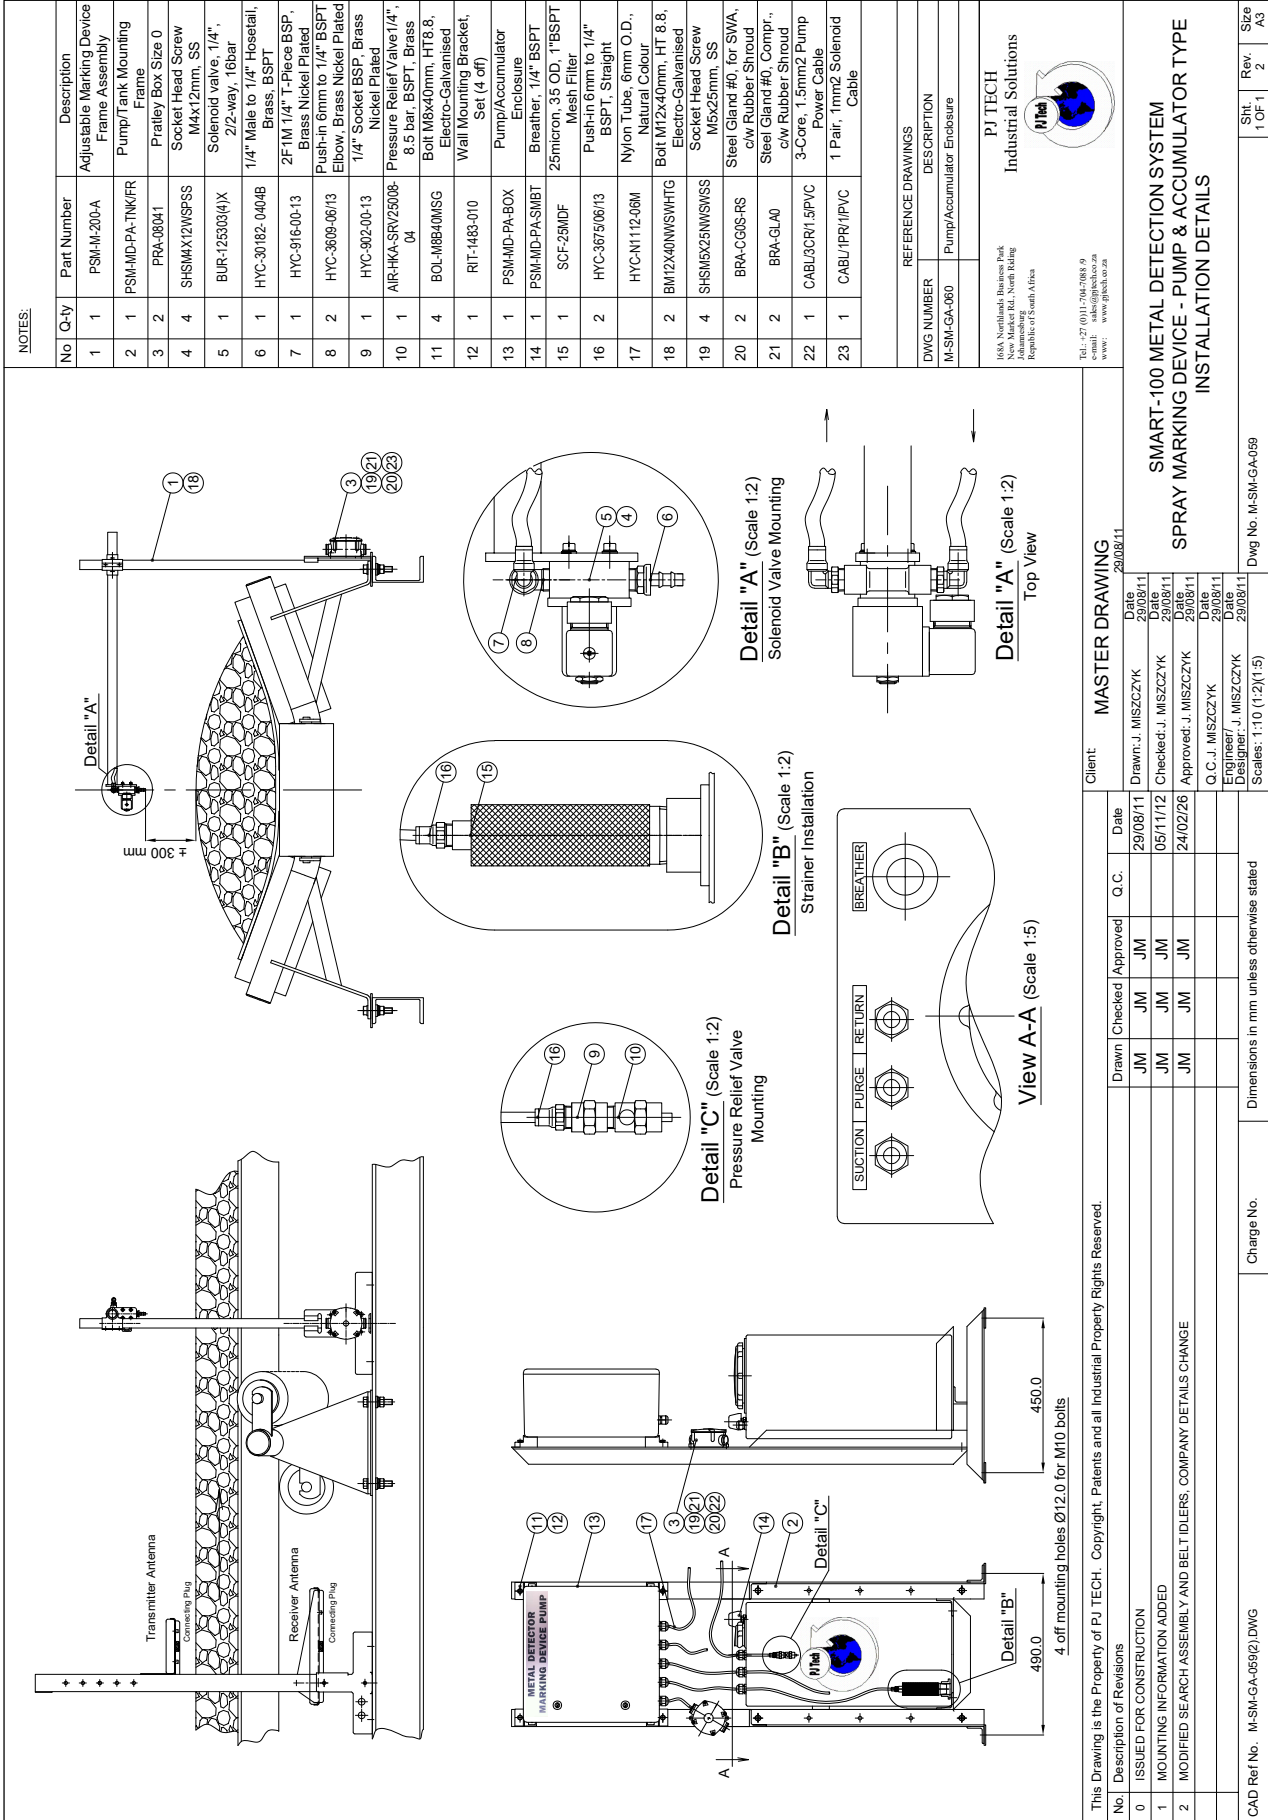

Figure 21
- A) Refer to Figure 21 & 22 for installation details and Figure 23 for connection diagram.
- B) Assemble the Marking Device Adjustable Spray Frame (1 on Figure 21) upright and cross arm with the cross bracket.
- E) Position the Adjustable Spray Frame upright and cross arm as shown (1 on Figure 21). It should be located approximately 1m to 2m from the antenna coils (as close as possible to the downstream idler). Bolt the bottom of the Adjustable Spray Frame to the conveyor frame. If necessary, first clamp it in place temporarily.
- F) Bolt the tank frame (2 on Figure 21) to the concrete or steel base or structure (use M12 HT galvanised bolts).
- G) Connect the cable between the spray valve's Pratley box (3 on figure 21) and the field terminals in the Main Control Enclosure (10m SWA, 1mm², 1 pair cable provided). Route the cable accordingly and cut off excess cable. While connecting the wires ensure to put on the provided wire tags.
- H) Connect the tubing between the protection enclosure of the pump & the accumulator (1 on Figure 22) with the spray solenoid valve (Figure 22 "Outlet" & "Return" as well as Figure 21 Detail "A").
- I) Ensure that the 1/4" spray solution pressure relief valve is connected inside the 50L tank (Figure 21 Detail "C"). Ensure that the pressure relief valve is joined with the 6mm tubing and is positioned close to the top of the tank.
- J) Connect the provided pump power supply cable (22 on Figure 21) between the Pratley box (3 on Figure 21) and the Main Control Enclosure (refer to Figure 23 for wire connection details). Ensure that the cable is connected between the pump (4 on Figure 22) and the Pratley box. Use the provided wire tags.
- K) Unscrew the tank's lid and ensure that the 1" 25-micron S/S strainer (15 on Figure 21) is screwed in (inside the tank, at the bottom). This strainer protects blocking of the spray solenoid valve with solid particles that might be present in the added water.
A) Refer to Figure 21 & 22.